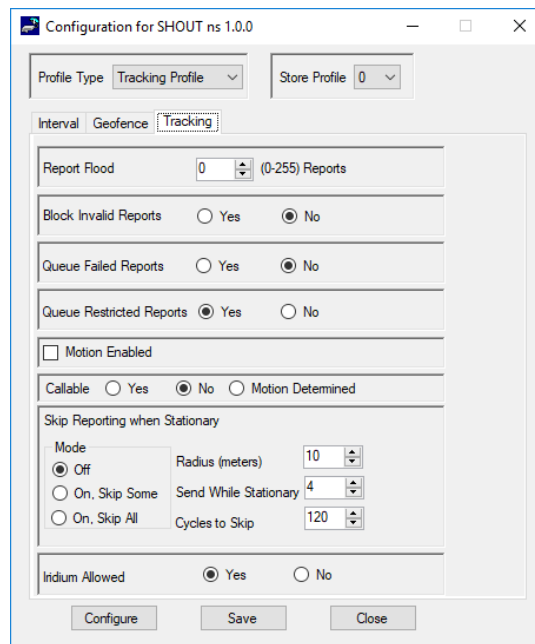

Figure 30: Tracking Profile Window with Tracking Tab
3. Select the *Store Profile* number (see **Figure 30**).